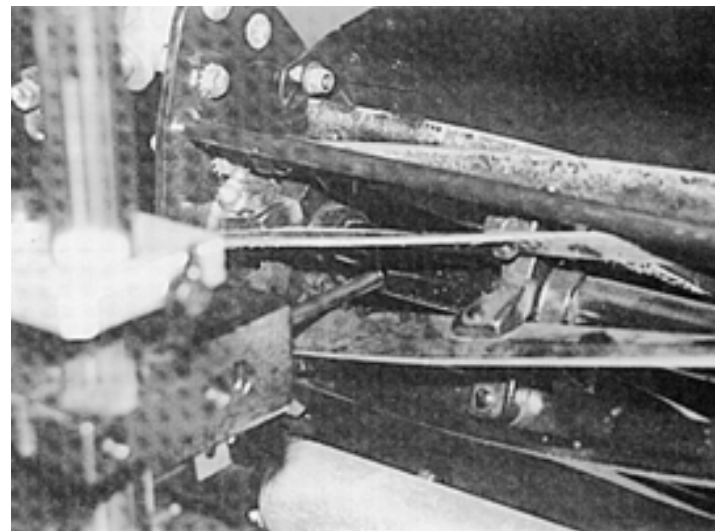

Fig. 17
- E. Move the alignment gage to the left side of the reel carefully retracting the indicator rod so as not to damage or change setting. Set indicator rod on the same position of the reel as on the other side, that is 1" from the end and centered on the shaft. (See Fig. 17) Now read the dial indicator to determine the distance the reel is out of position. (See paragraph "F" for example - STEP 2.)